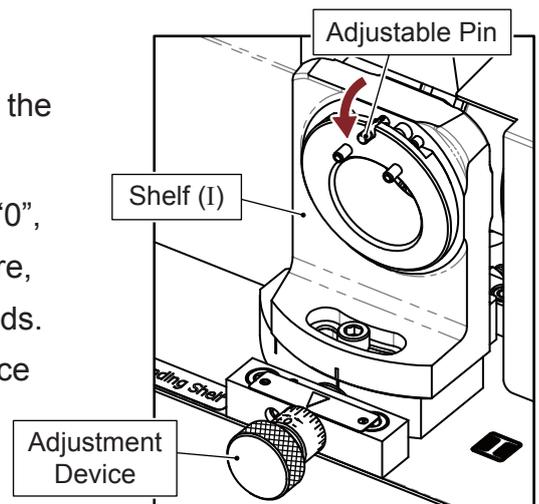

Fig. 5-21
1) Secondary Relief Grinding Shelf (I) (Fig. 5-21)
- ① Move the adjustable pin on the Shelf (I) from the top to bottom.
- ② Adjust the cutting face adjustment device to “0”, after finishing the whole sharpening procedure, then adjust this device according to your needs. (See chapter “V-4. The use of the Cutting Face Adjustment Device”)